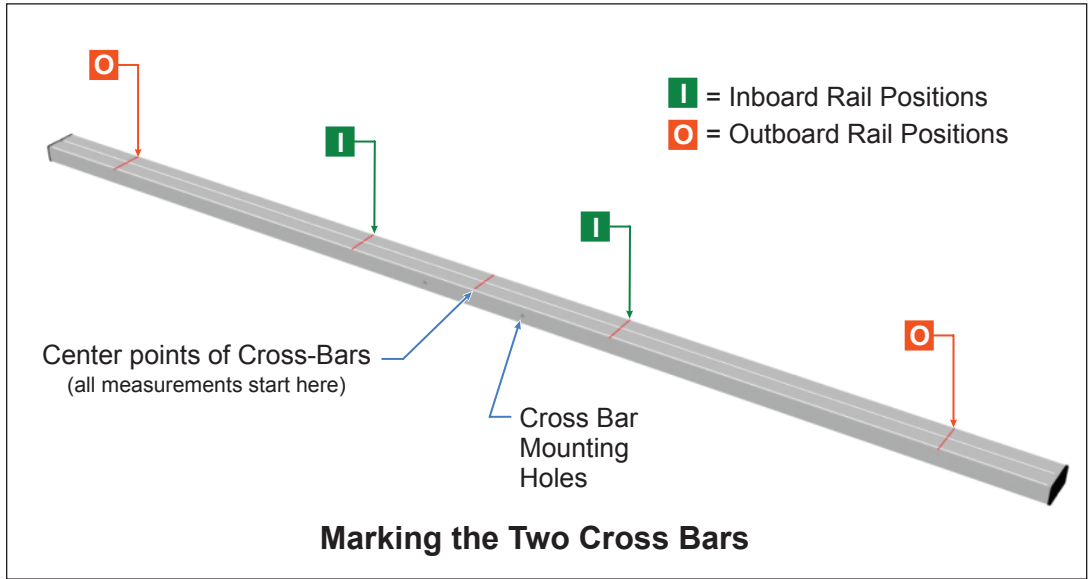

Figure 1-1
A. Mark the two Cross-Bars where indicated on Figure 1-1.